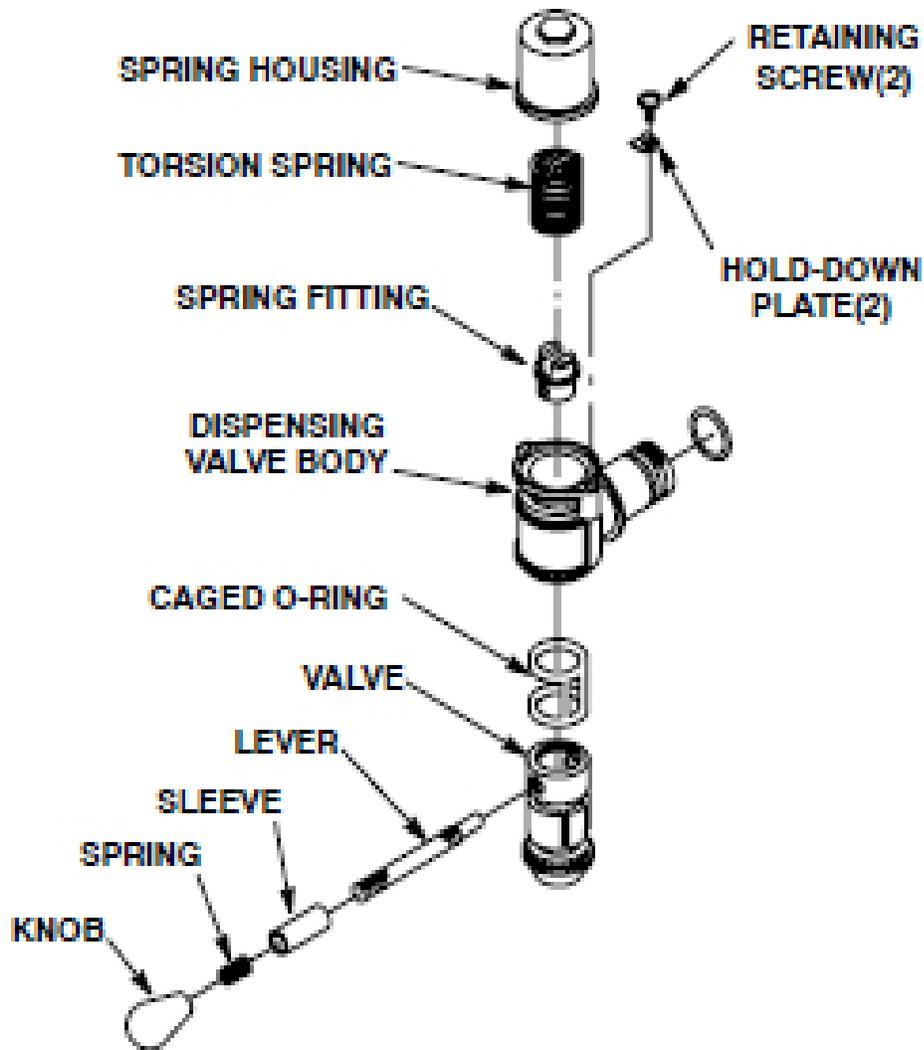

Figure 12. Self-Closing Dispensing Valve
6.	Disassemble the dispensing valve (Figure 12.).